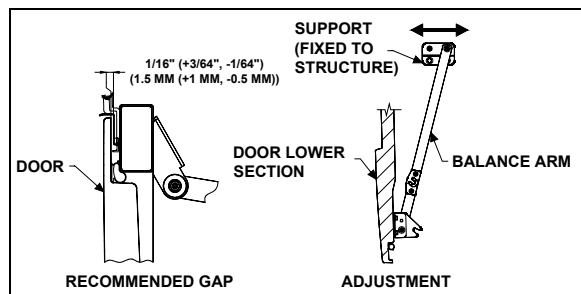

FIGURE 52: BAGGAGE COMPARTMENT DOOR 18071
8. Recheck gap mentioned in step 6. If gap has changed, correct by adjusting arm support fixed to structure. Loosen the bolt supporting the balance arm on door lower section and close the door, gap adjustment will automatically result. Tighten the bolt from inside the compartment (Fig. 52).